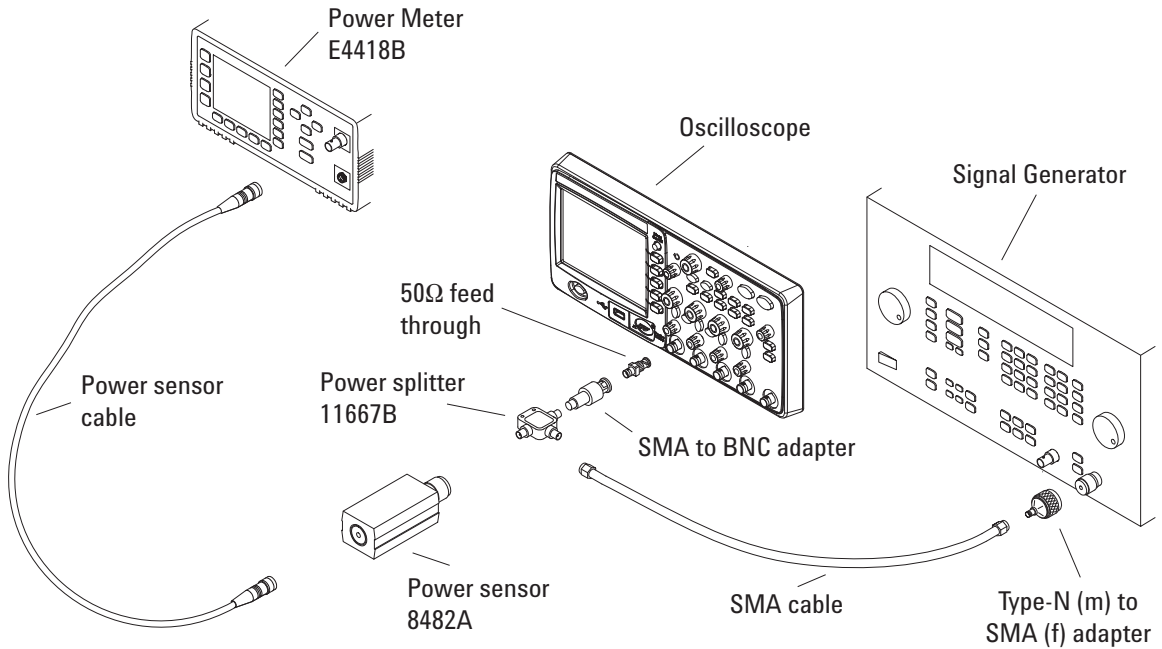

Figure 4 Connecting Equipment for Maximum Frequency Check Test
- 1 Connect the equipment as shown in **Figure 4**.